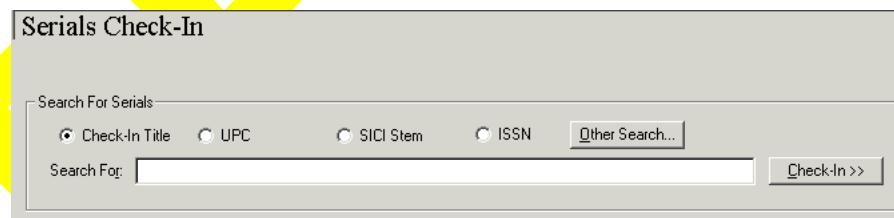

Figure 2-95. Serials Check-In search workspace
- The **Serials Check-In** button opens the **Serials Check-In** search workspace (see Figure 2-95)